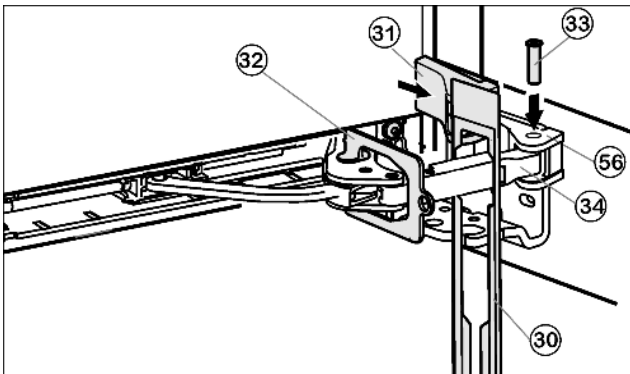

Fig. 20
- ▶ Attach the faceplate *Fig. 20 (30)* to the soft stop bracket so that the catches face forwards and the front faces the appliance.
- ▶ Draw the soft stop bracket *Fig. 20 (34)* towards the bearing part *Fig. 20 (56)* and insert the pin *Fig. 20 (33)* from above so that the square sits in the recess.
- ▶ Attach and engage the cover *Fig. 20 (31)*.
- ▶ Twist the safety lock *Fig. 20 (32)* for removal.
- ▶ Snap the faceplate *Fig. 20 (30)* onto the door.